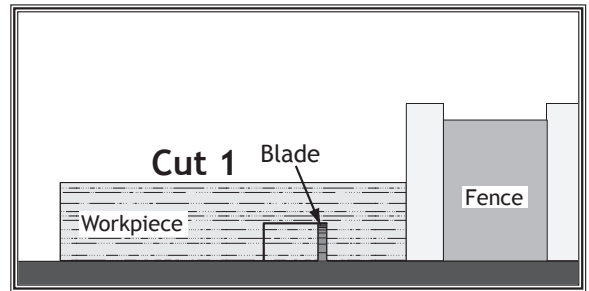

Figure 61. Single-blade dado first cut.
- If dadoing the length of a workpiece, align the blade to cut one of the dado sides as shown in **Figure 61**.